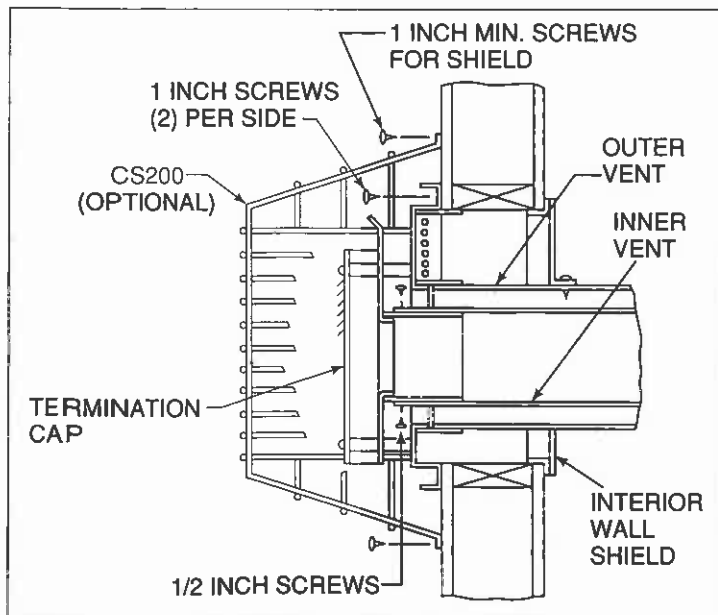

Figure 7
The last section of vent will require cutting, depending on the wall thickness and appliance location. The end of the vent must penetrate the exterior wall. Cut the inner and outer sections so the pipe extends past the wall by 1" on the outer pipe and 2 1/2" on the inner pipe. See Figure 7 (page 5). Horizontal runs will require the use of (1) Vent Support (VS4) for every 3' of vent.
To install the cap, slide the cap pipe sections into the vent pipe. Secure the cap flush to the wall using (8) 1" fasteners provided. Seal the cap to the wall with a mastic such as silicone caulking. Fasten the inner vent with (3) 1/2" screws to secure the vent. (An optional CS200 Cap Shield is required if the cap is located in an area of easy accessibility.) See Figure 7. Vent termination must not be recessed into wall or siding.